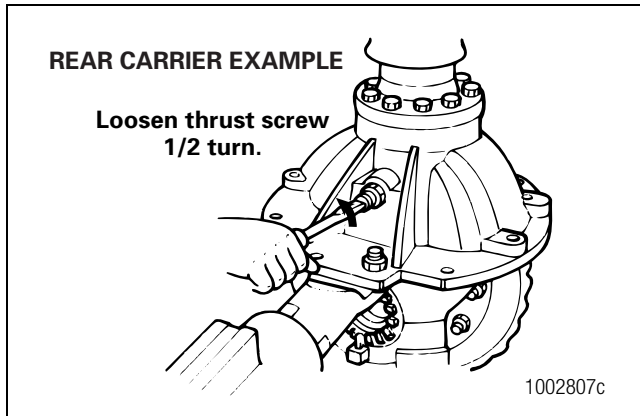

Figure 5.79
4. Loosen the thrust screw one-half turn or 180 degrees. Figure 5.79.